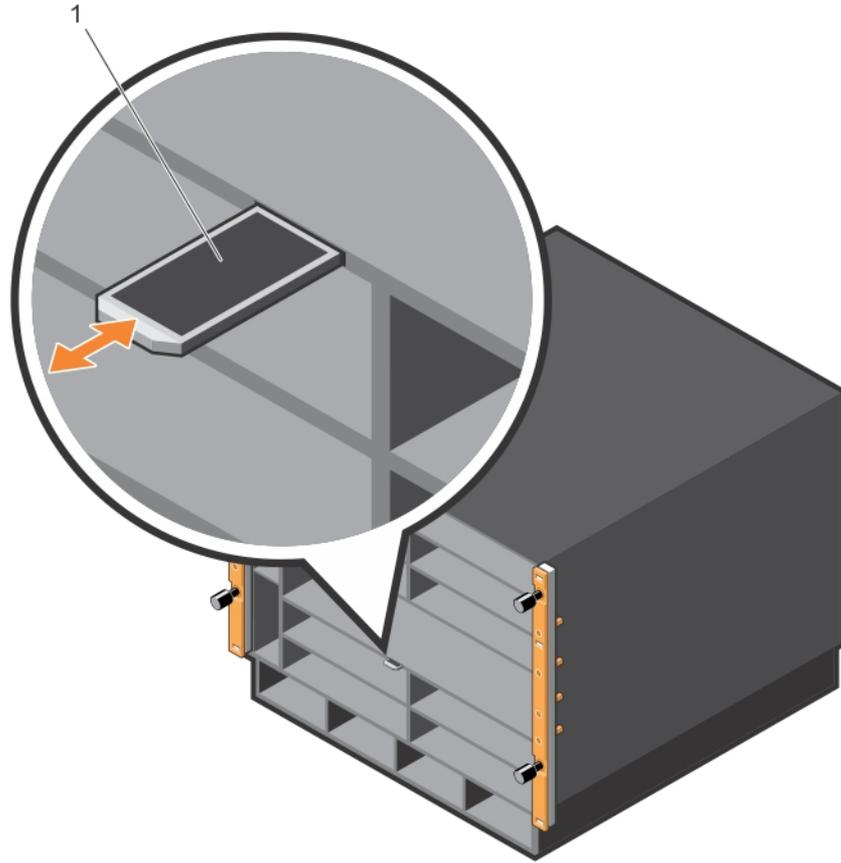

Figure 34. C9010 Service Tag
To view the chassis service tag or express service code on a C9010, pull out the tag (item 1 in Figure 34) located on the shelf in RPM card slot 11 (see Figure 1) or enter the `show chassis` command from the command-line interface. The service tag on a C9010 line card is located on the bottom of the module.